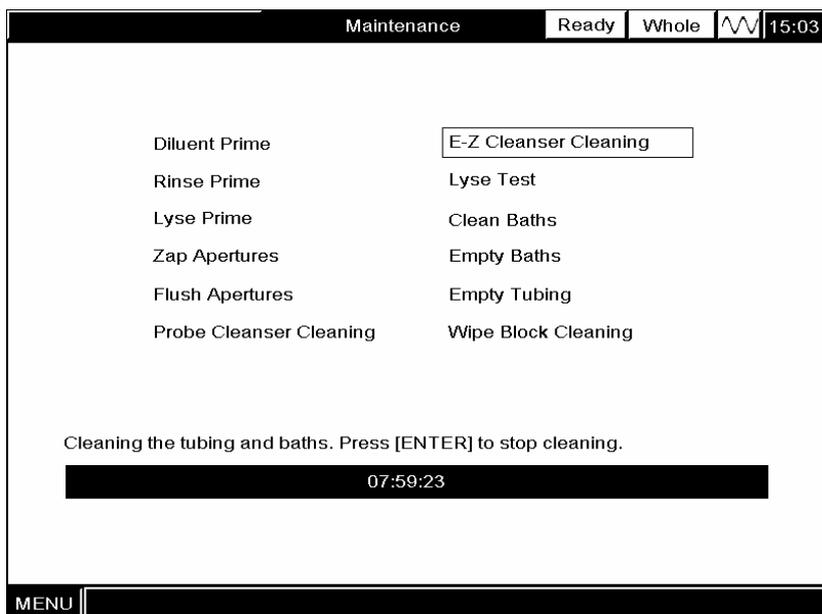

Figure10-13 E-Z cleaning
3. When the priming is done, the cleaning process begins, as Figure10-13 shows. The default cleansing time is 8 hours and you may press [ENTER] to stop the process any time;